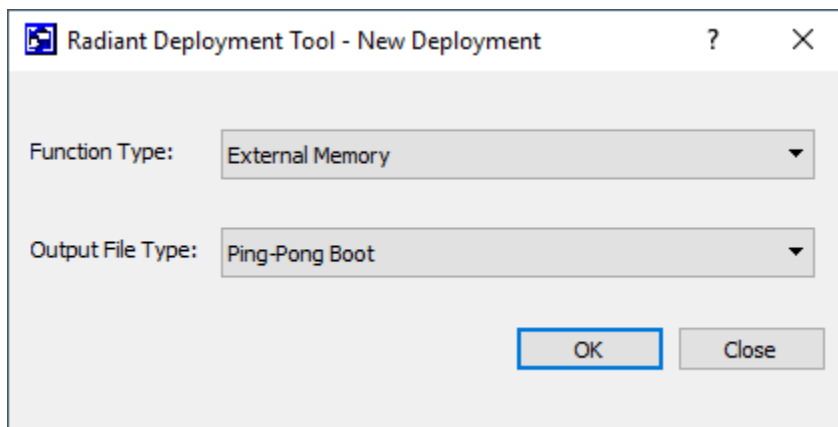

Figure 6.6. Creating New Deployment for Ping-Pong Boot PROM Hex File
3. In the **Radiant Deployment Tool** window, select **External Memory** as the **Function Type** and select **Ping-Pong Boot** as the **Output File Type** (Figure 6.6).